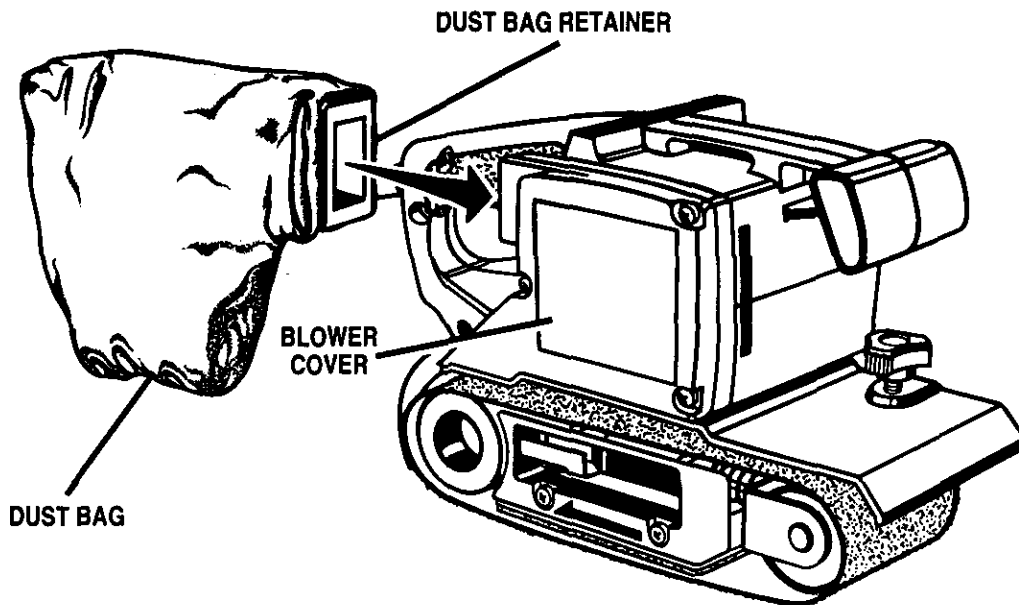

Fig. 2
See Figure 2.
- Slide dust bag retainer in the direction of the arrow as shown in figure 2.